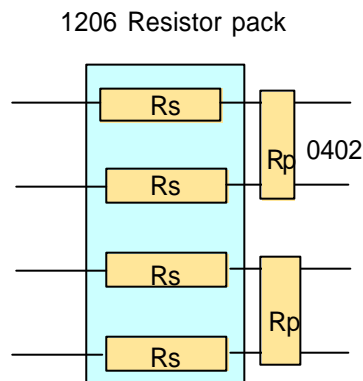

Figure 2. Termination networks
- Termination between the pair of signals (see figure 2)